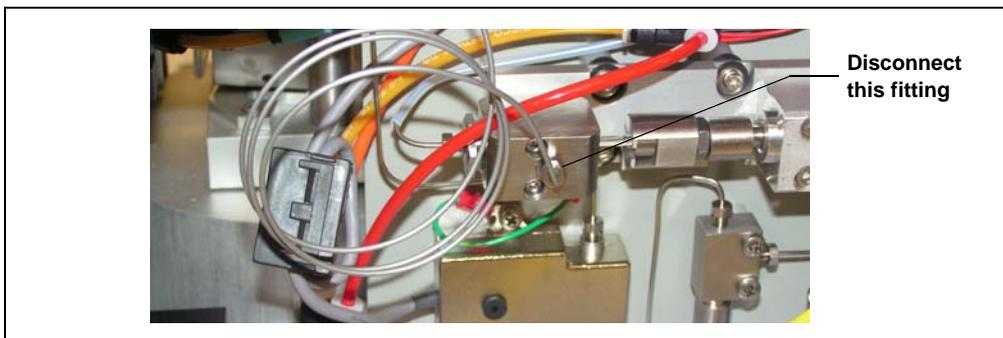

Figure 5-25. Disconnecting the Source Needle Fitting from the Static Valve
- Use a 1/4-inch open-end wrench to disconnect the fitting on the side of the static valve (see Figure 5-25).